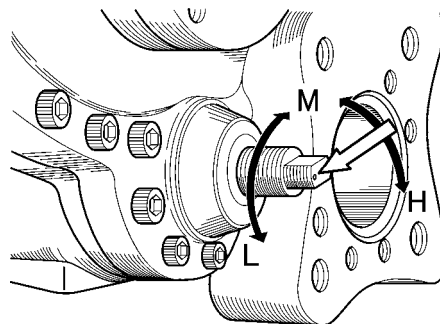

Fig. 2-2 Vi Adjusting Rod
- c. Check the inscribed mark (indicated by the white arrow in Fig. 2-2) on the Vi adjusting rod, which should be used as a reference point when counting the number of turns of the rod.